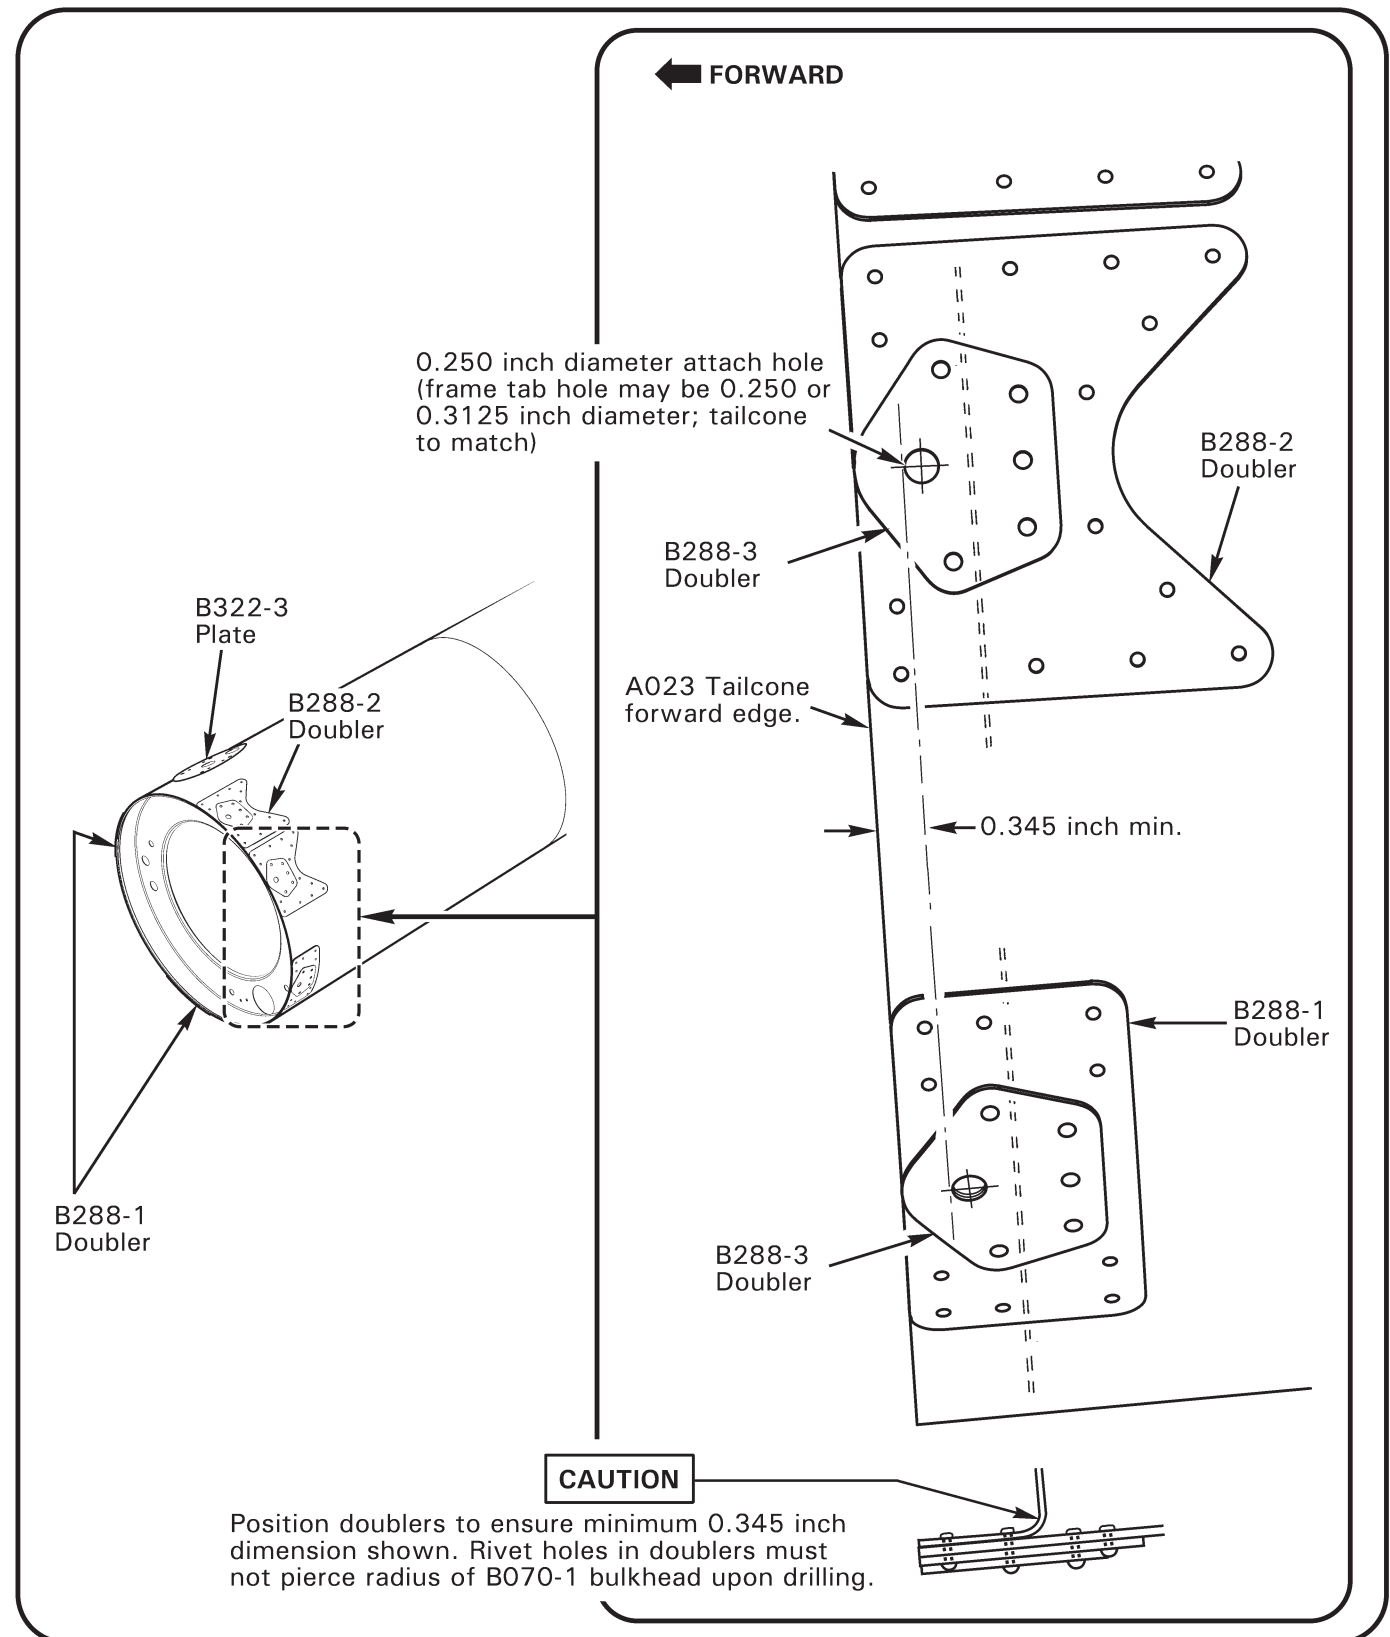

FIGURE 4-2E TAILCONE DOUBLER INSTALLATION
2. Clamp tailcone at (3) mounting locations to prevent tailcone movement during drilling, do not clamp tailcone at frame tab on left side of tailcone.
4. Remove (1) clamp from next mounting location and back drill hole per step 3, repeat process for each clamped mounting hole.
7. Refer to Figure 4-2E and accompanying "CAUTION" statement. Center B288-1 or -2 doublers over each tailcone mounting hole and flush with tailcone forward edge. Mark doublers from inside tailcone for drilling 0.250 inch diameter hole.
8. Refer to Figure 4-2E. Drill B288-1 or -2 doubler with a 0.250 inch diameter twist drill at spot marked in step 7. Deburr hole and secure doubler to tailcone with a NAS1304-3 bolt. Drill through existing pilot holes in doubler with a #30 drill bit and secure with clecos.